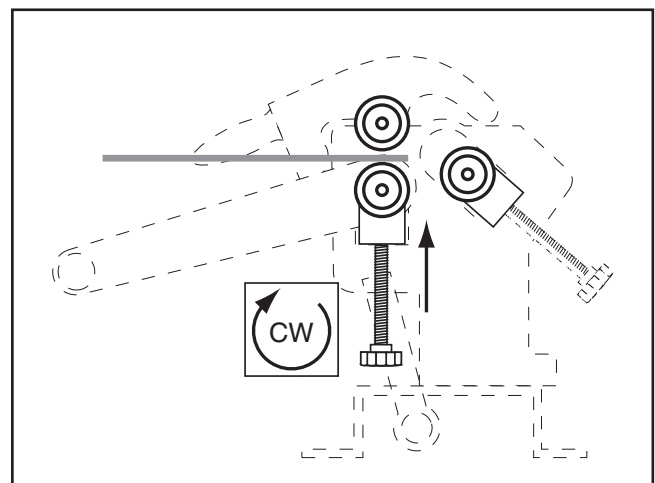

Figure 16. Raising bottom roller.
1. Place the workpiece between the top and bottom rollers, as shown in **Figure 16**. Turn the thickness adjust knobs to raise the bottom roller until the workpiece is held snug between the top and bottom rollers. Be sure to turn the thickness adjust knobs equal amounts.